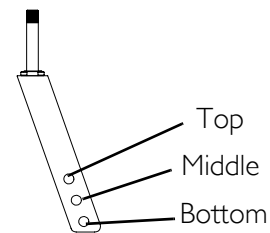
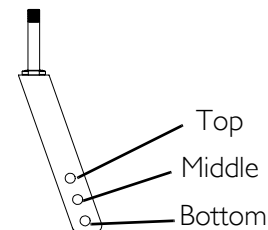

FIGURE 10.1 Changing Seat-to-Floor Height - Non-Recliner Frame Style
FIGURE 10.2 Changing Seat-to-Floor Height - Recliner Frame Style
NOTE: For this procedure, refer to FIGURE 10.1 on page 50 and FIGURE 10.2 on page 51.
- A. Adult/Hemi Frame Style - FIGURE 10.1.
- B. Recliner Frame Style - FIGURE 10.2.